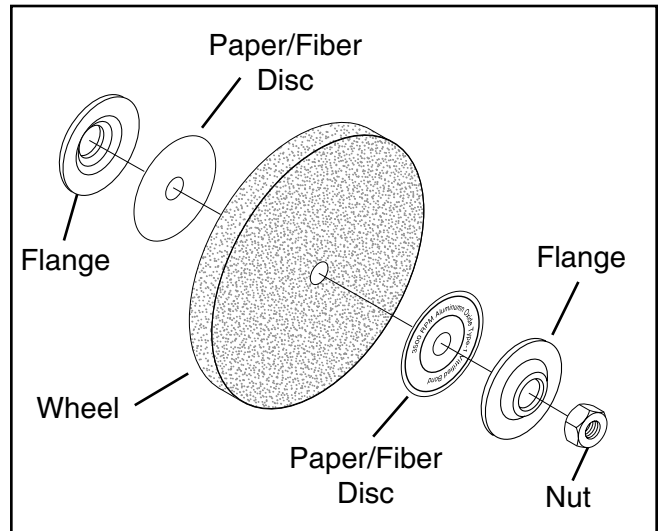

Figure 13. Wheel mounting order.
- Mount the new wheel in the reverse order or as shown in **Figure 13**. Always make certain there is a paper or fiber disc between the wheel flanges and the wheel itself. Tighten the nut snugly but DO NOT over-tighten. Over-tightening can crack the wheel.